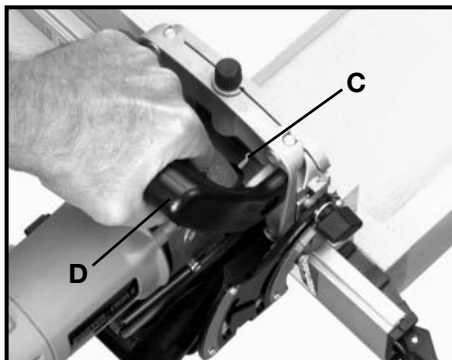

Fig. 25
6. Position tool to workpiece with bottom of base against straight edge and guide notch (C) Fig. 25, aligned with a groove centerline. Apply pressure to auxiliary handle (D) Fig. 25 to hold tool firmly in place.